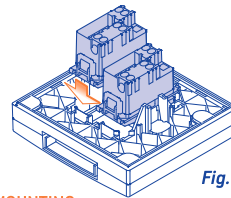

Fig. 5
- After connecting the conductors, press the modules from the bottom (Fig.5) and carefully attach the top lid to the box. Make sure the seals are not released or deformed between the box and the upper part.
- Insert the modules as shown in Fig.5 and place the enclosure on the wall.